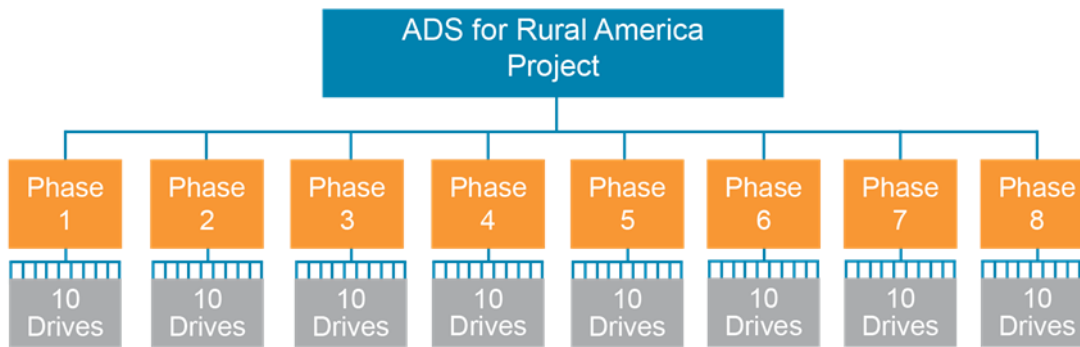

Figure 2. Project phases and drives
- Figure 2. Project phases and drives2
ADS for Rural America consists of eight phases, with 10 drives each on the project route as shown in Figure 2.